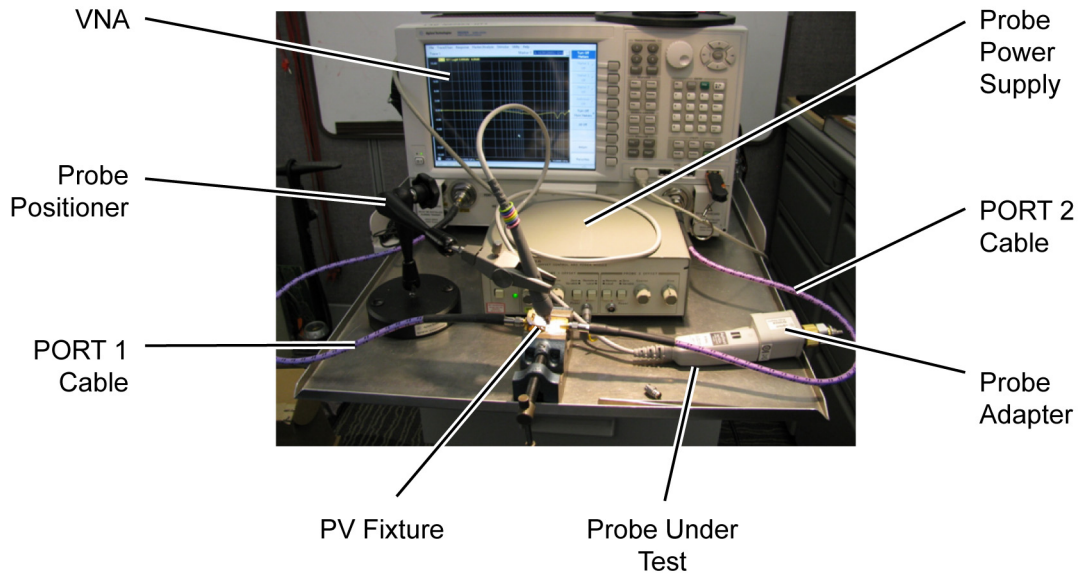

Figure 46 Measurement setup for V_{in}
- f** If available, use the N2787A 3D Probe Positioner to position the probe straight up and down (perpendicular) to the PV Fixture as shown in Figure 46.